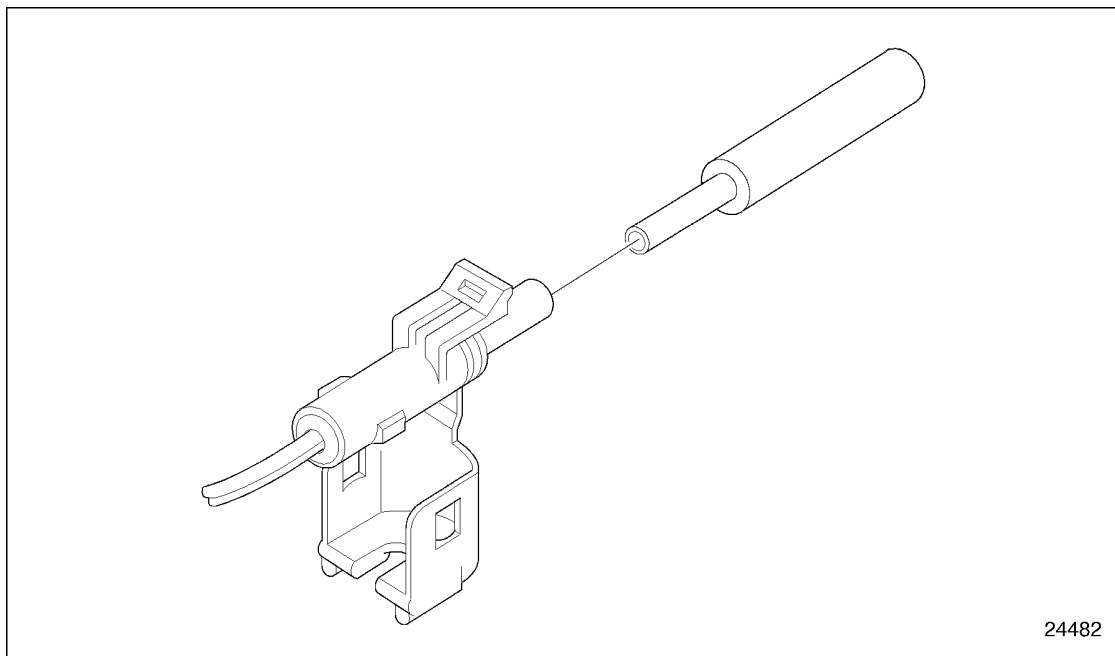

Figure 8-26 Removal Tool Procedure
2. Insert the removal tool straight into the front of the connector cavity until it rests on the cavity shoulder. See Figure 8-26.